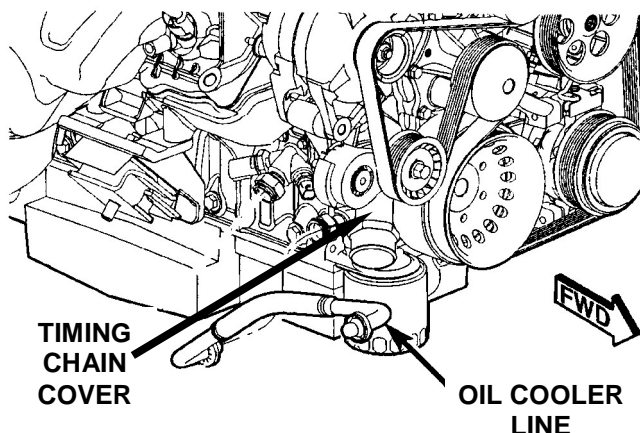

Figure 1
11. Disconnect the oil cooler line from the timing chain cover using special tool #9005 (Figure 1).
86. Install the oil cooler line to the timing chain cover (Figure 1).